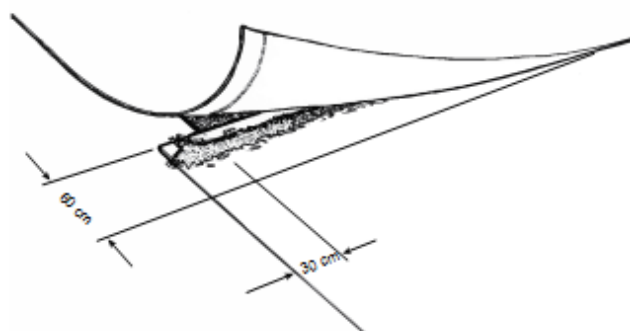

Fig. 9: End-of-panel overlapped seam
6. End-of-panel, bentonite-enhanced, overlapped seams are constructed first by overlapping the adjacent panels, exposing the underlying panel, and then applying a continuous bead or fillet of granular sodium bentonite 30 cm from the edge of the underlying panel (Figure 9). The minimum application rate at which the bentonite is applied is 0,4 kg/m.